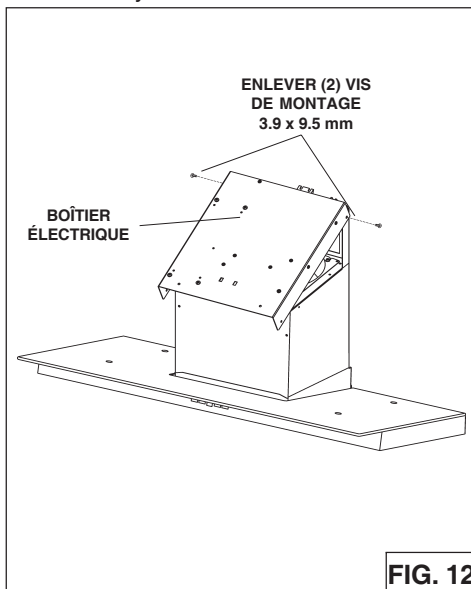

FIG. 12
1. Remove the electrical system box from chimney frame by removing (2) 3.9 x 9.5 mm screws. Fig. 12.
2. Attach electrical system box to frame using (2) 3.9 x 9.5 mm screws removed in Step 1 and (2) 3.9 x 9.5 mm screws and (2) lock washers from hardware bag.